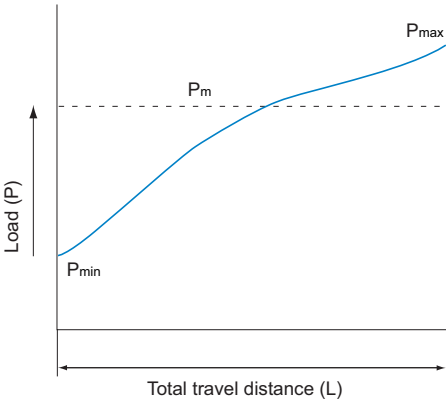

Fig.3
As this load is monotonically varying as shown in the Fig.3 on A-470, calculate the average load using the equation (2) on A-470.